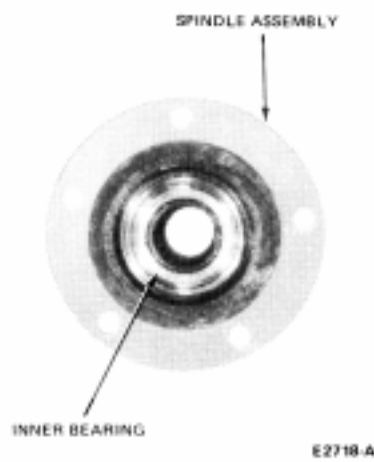

FIG. 10 Spindle Lubrication
12. Install the backing plate, lubricate the spindle using CIAZ-19590-B lubricant or equivalent (see Fig. 10), install the spindle, and torque the retaining screws to 30-40 ft-lb.